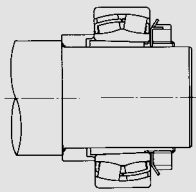
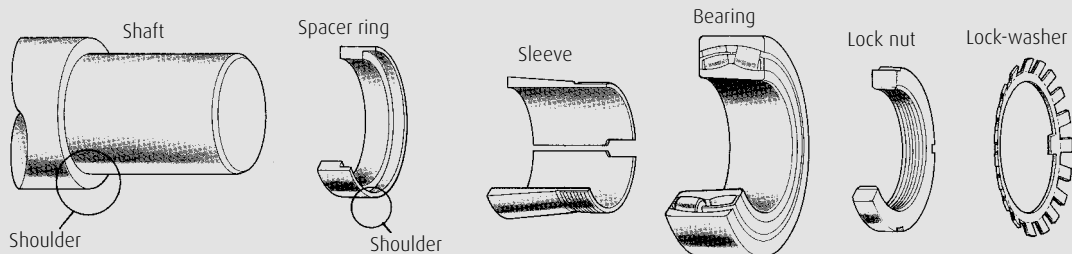
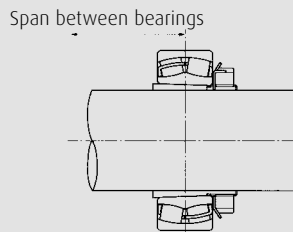
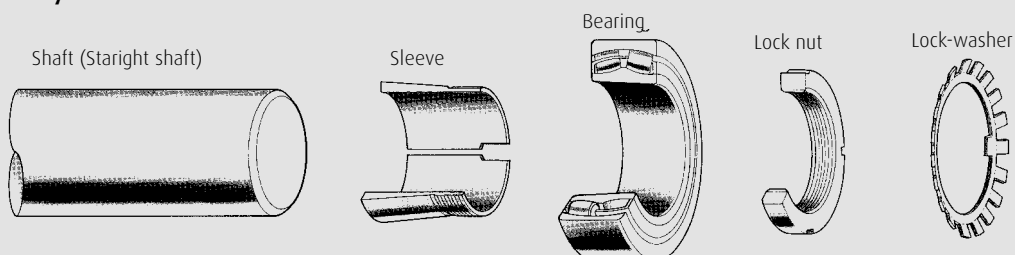

Fig. 6.7 Assembly View
Fig. 6.8 Method to use lock nut
Fig. 6.9 Assembly View
Fig. 6.10 Method to use lock nut
a) Lock nut method (Fig. 6.7 to Fig. 6.10)
3. For the shaft with shoulder (**Fig. 6.7 and Fig. 6.8**), if a spacer ring is needed, mount it.
4. Mount the adapter sleeve so that its thread comes to the shaft end side. When a spacer ring is needed, insert the adapter sleeve into a bore of shoulder of spacer ring, then, mount. For straight shaft without shoulder (**Fig. 6.9 and Fig. 6.10**), mount the adapter ring into the bearing mount span position so that its center is on top near the center of the bearing. To mount the adapter sleeve on the shaft, it is made easier by widening a little the slit of adapter sleeve by putting screw driver or chisel into the slit.